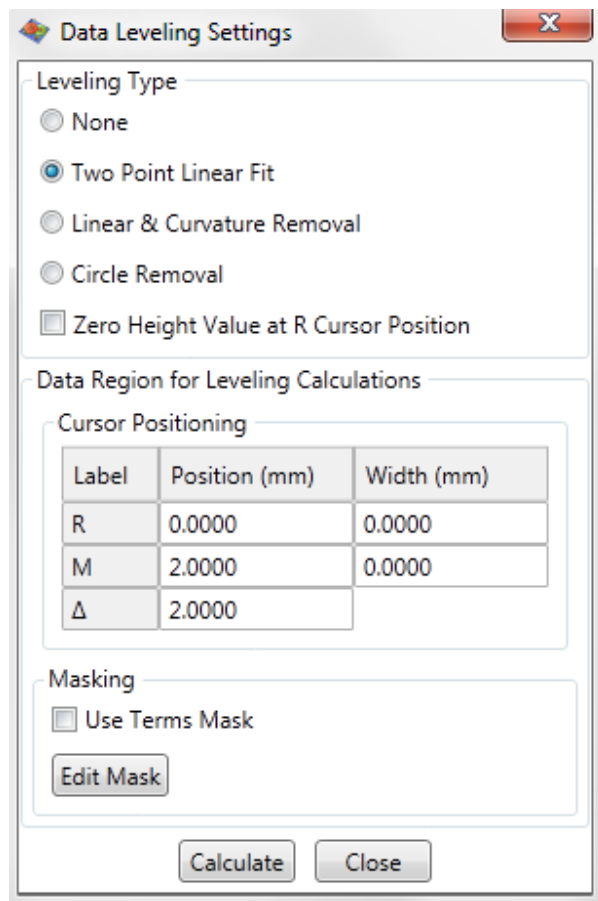

Figure 4-29: Data Leveling Settings Dialog Box
- Left-click the mouse while hovering over the **Data Leveling** button on the right side of the screen. This activates a menu with various leveling options available (see Figure 4-29).